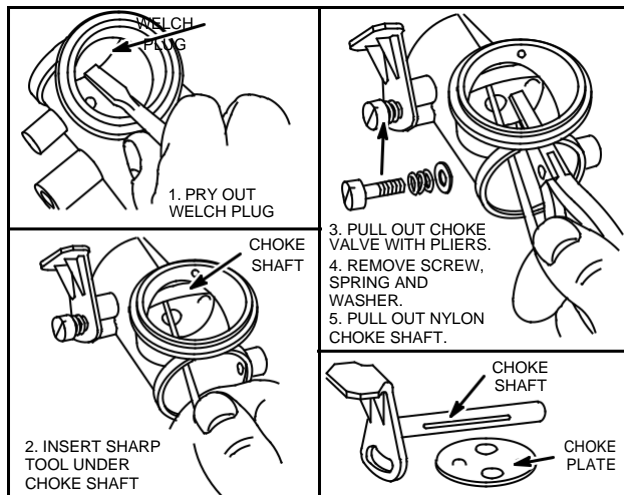

Fig. 261 - NYLON CHOKE SHAFT
3. Remove choke plate. On carburetors with nylon choke shaft, remove choke plate as shown in Fig. 261.